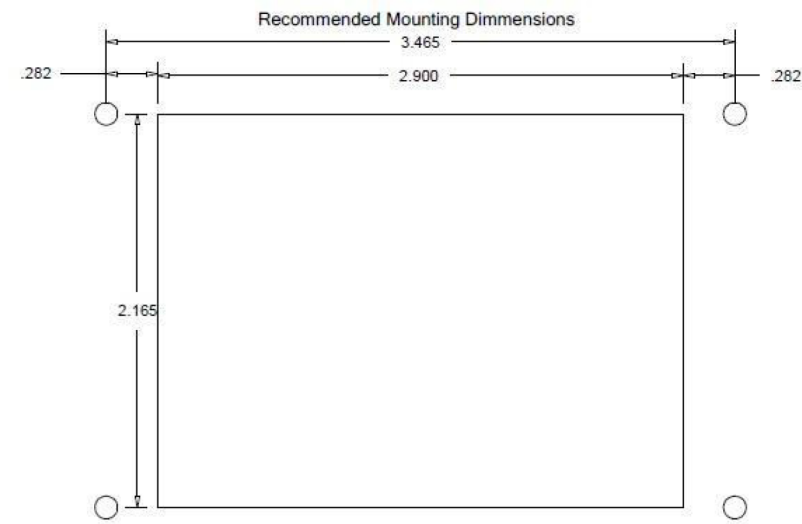

Figure 6 – EasyTouch Display Mounting Dimensions
2. Make the cut-out for the display panel as shown in Figure 6. Cut-out size is 2.900" (74mm) wide by 2.165" (55mm) tall.